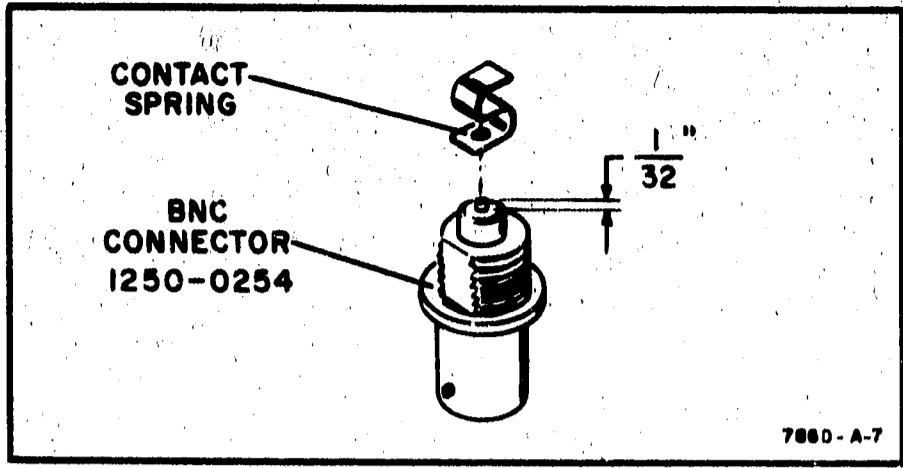

Figure 7. 11523A BNC Assembly
(1) Cut center conductor lead to approximately 1/32 inch (refer to Figure 7).
(2) With flat file, smooth end of lead; wipe off burr with tweezers or similar metal instrument.